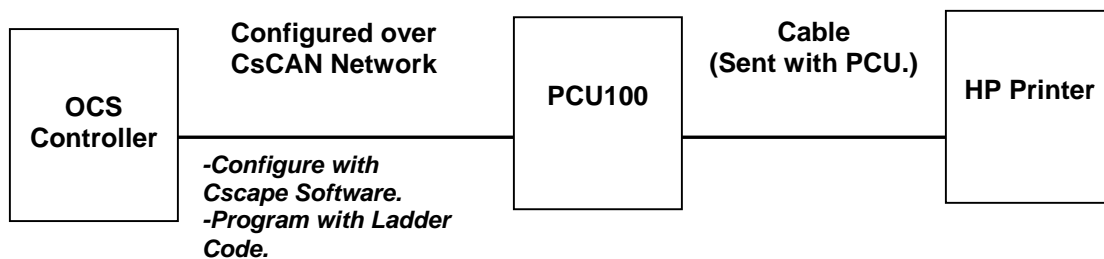

Figure 1 - PCU Setup in a CsCAN Network
- As shown in **Figure 1**, the PCU is connected to a Hewlett Packard (HP) printer with the cable that comes with the PCU. The cable connects the PCU to *any Hewlett-Packard printer* with IEEE 1284 parallel port and that uses PCL3 or greater.